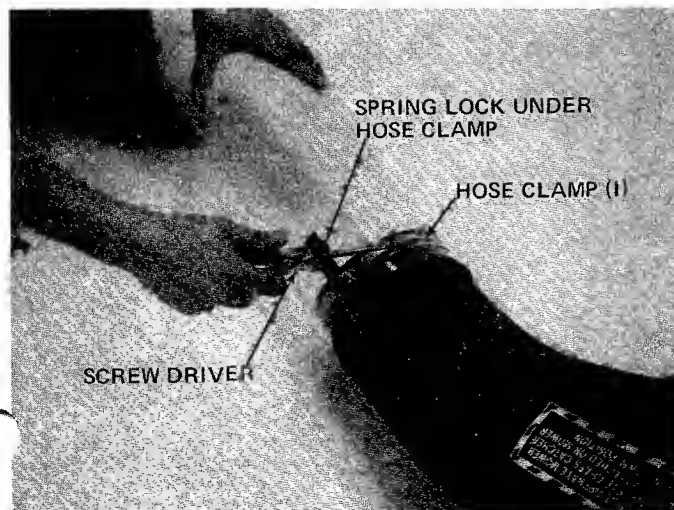

FIGURE 9
9. Slide the hose clamp (I) down over the top of spring lock and plastic tube and tighten with a screwdriver until clear plastic tube cannot be moved. See figure 9.